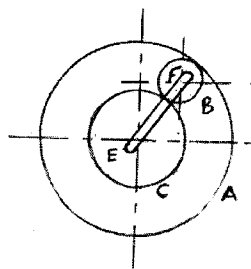

Fig. Q6 (b)
- b. An epicyclic gear consists of three wheels A, B and C as shown in Fig. Q6 (b). Wheel A has 72 internal teeth and C has 32 external teeth. The wheel B gears with both A and C is carried on an arm which rotates about the center of A at 18 rpm. If the wheel A is fixed, determine the speed of wheels B and C. (10 Marks)